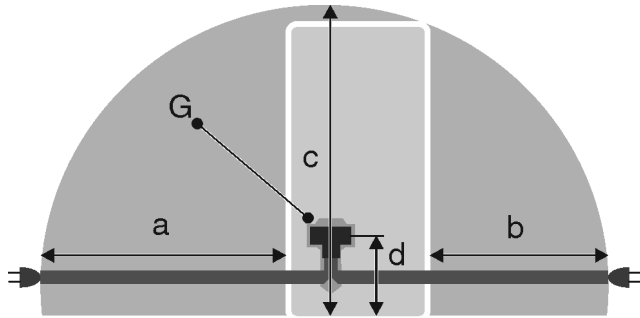

Fig. 48
- The socket is outside the back of the appliance area in the specified area Fig. 48 (a, b, c).
- ▶ Insert the appliance plug Fig. 48 (G) into the back of the appliance. Ensure that it clicks into place.